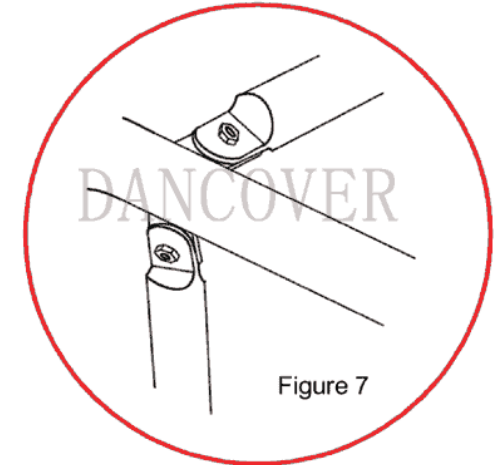

Figure 7
1. pls fix the edges of front cover to the frame by rope as figure 7 shows and insert the door dropping tubes into the bottom pocket of front cover